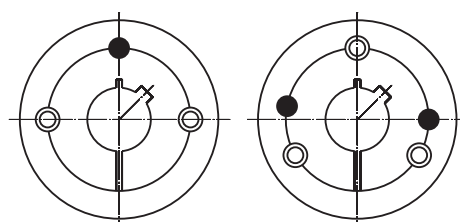

Fig. 1
2. Insert the taper bush into the element hub and line up all connecting bores. Make sure that half threaded holes coincide with half plain holes (Fig. 1).